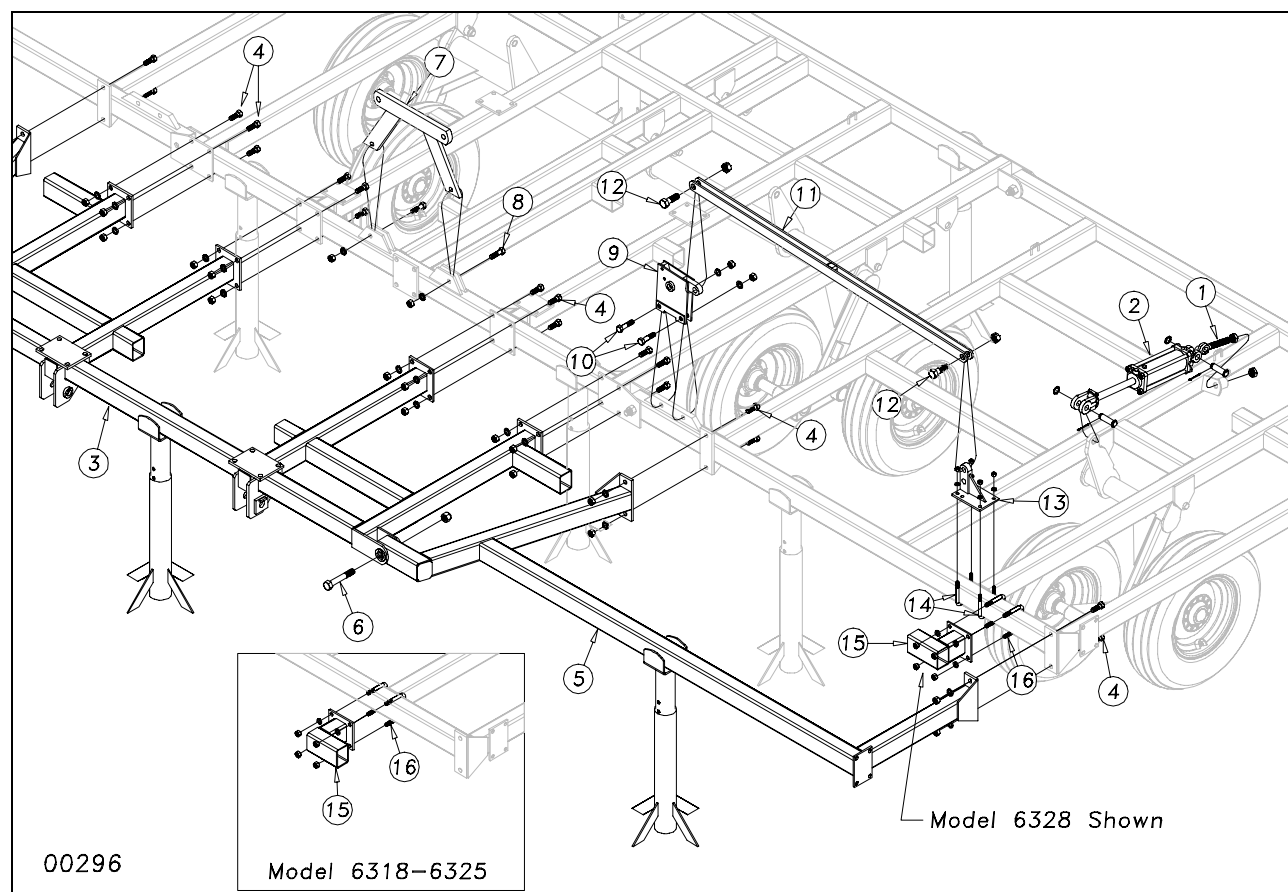

Figure 4
Install the 1 x 7 1/2 eye bolt (1) Figure 4, in the mounting bracket at the back of the wing with a 1" jam nut on each side of the bracket. Install the rephasing wing cylinder (2) between the eyebolt and the lever on the wheel bracket (see Section 2 Hydraulics for cylinder size). Secure the cylinder with 1" clevis pins, 1" machine washers and 3/16 x 2 cotter pins.
On models 6318-6328, bolt the center fold bracket (7), Figure 4, to the front bar of the center frame with two 3/4 x 2 1/2 hex bolts (8) with lock washers and hex nuts.